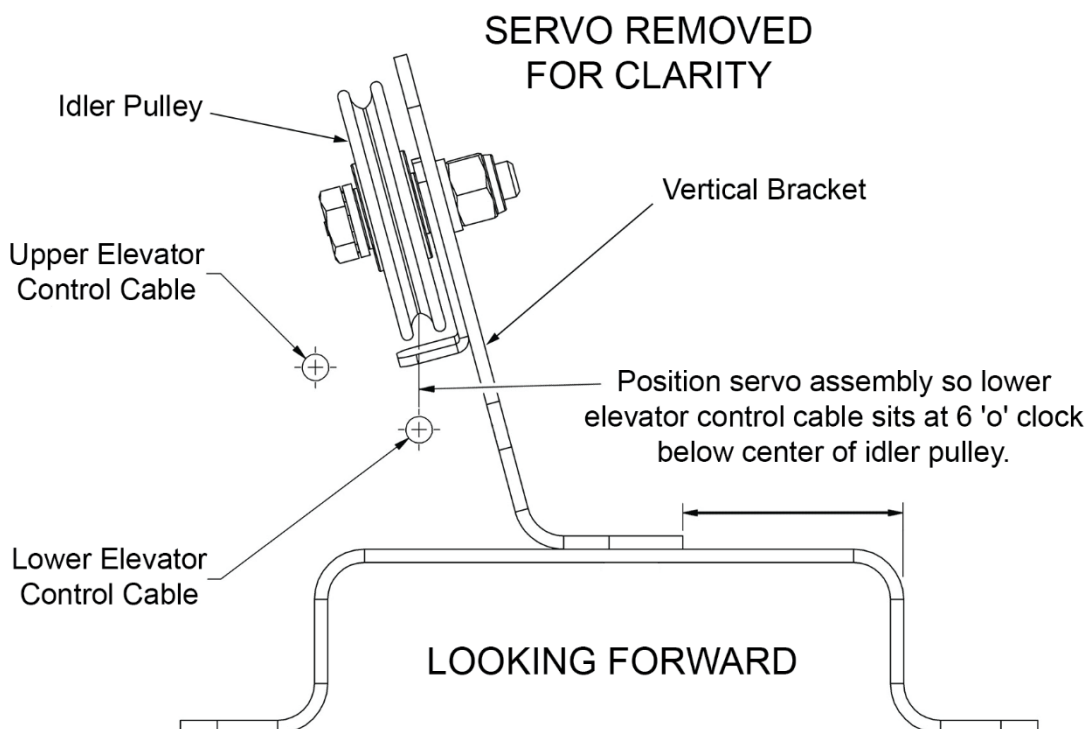

Figure 21: Positioning Servo Assembly Laterally on Base Bracket
9. Position servo assembly laterally on base bracket as needed to align idler pulley with lower elevator control cable (see Figure 21). Make sure no components interfere with elevator and elevator trim control cables.